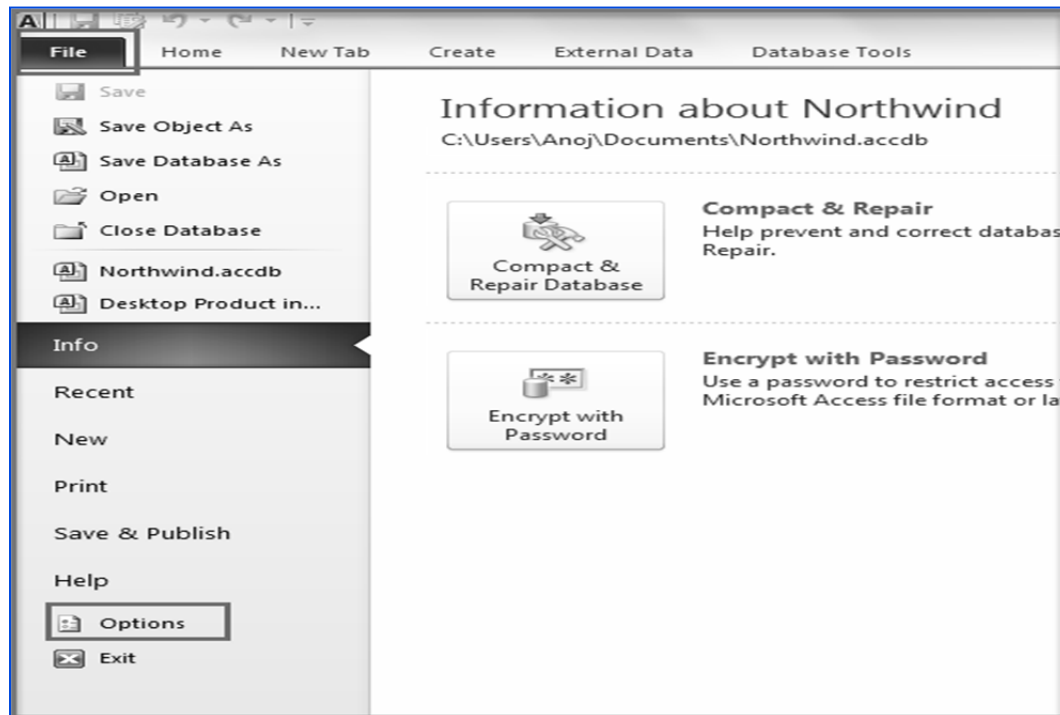

Fig. 4.3.28: Open Access Options
2. Select *Access Options* from the list, as shown in Fig. 4.3.28.